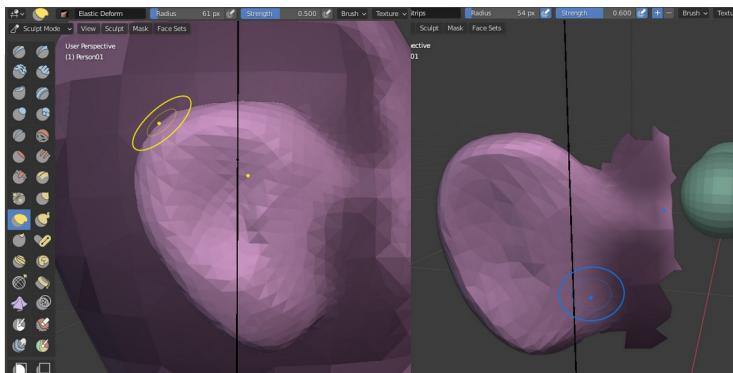

Figure 5-4 Mask around the ears or hide vertices
25. To prevent the head around the ear being distorted, draw using the Mask brush then, with the Grab brush, stretch the edge of the ear out into, well, an ear shape, shown on the left of Figure 5-4.
Masking is an important part of sculpting and painting on 3D objects, with several methods available. One approach, also shown in Figure 5-4 is to switch to Edit mode, select the vertices you want to work on, then **Mesh > Show/Hide > Hide Unselected**. The hidden vertices will also be hidden when you switch back to Sculpt mode.